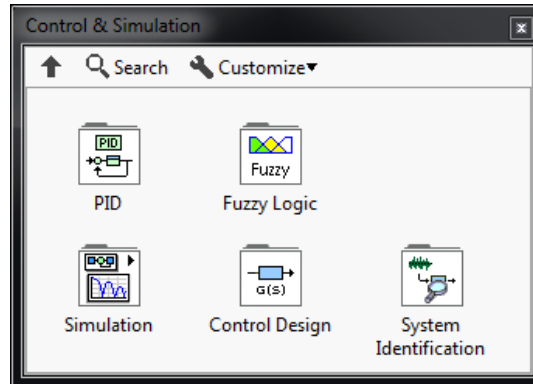

Figure 4 - Pinned Control & Simulation menu
- Right click in the Block Diagram window to pull up a list of available functions and blocks. Then click the double arrow at the bottom expand the menu. Select **Control & Simulation** from the menu and click the pushpin icon on the menu that pops out. This will "pin" the menu to your desktop so you can access it more easily. Once it is pinned, it should look like the window in Figure 4.